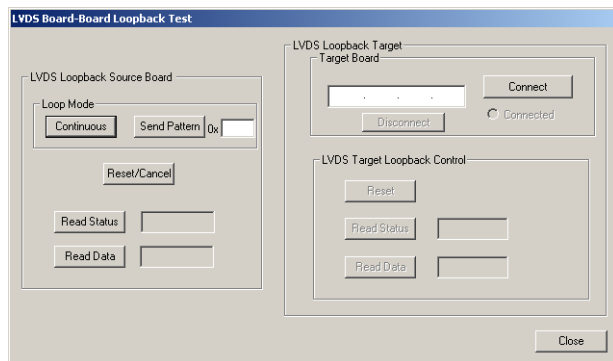

Figure 2-18. LVDS Board-Board Loopback Test Window
2. **Click Run.** The LVDS Board-Board Loopback Test window displays as shown in Figure 2-18.